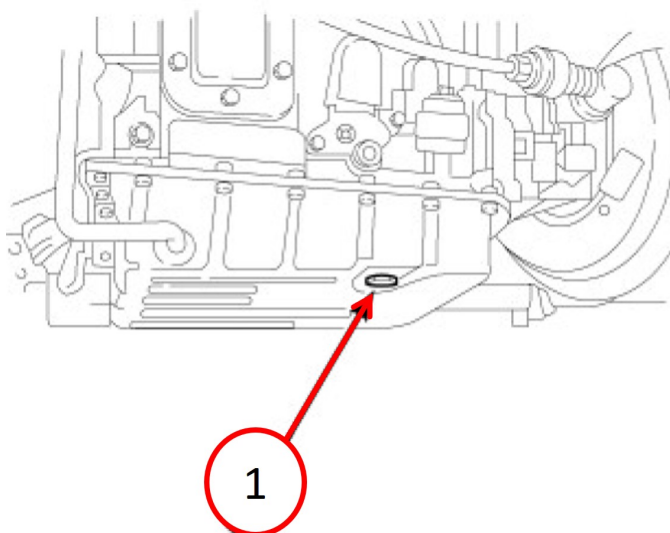

Fig. 1
4. Remove oil pan drain plug Fig. 1 and drain fluid from transmission pan. **DISCARD** the drain plug gasket.
34. Using a **NEW** gasket, install the transmission oil pan drain plug Fig. 1.